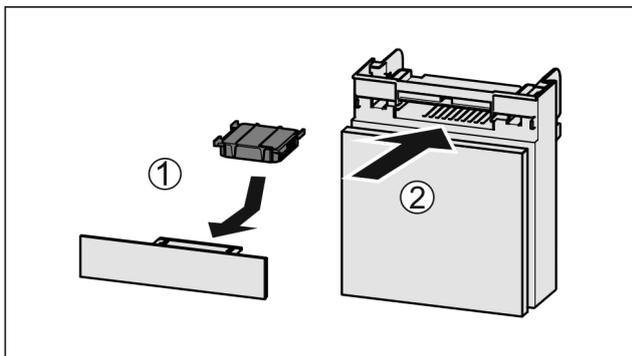

Fig. 123
- ▶ Insert the carbon filter as shown in the diagram Fig. 123 (1).
- ▶ Push the compartment in Fig. 123 (2).